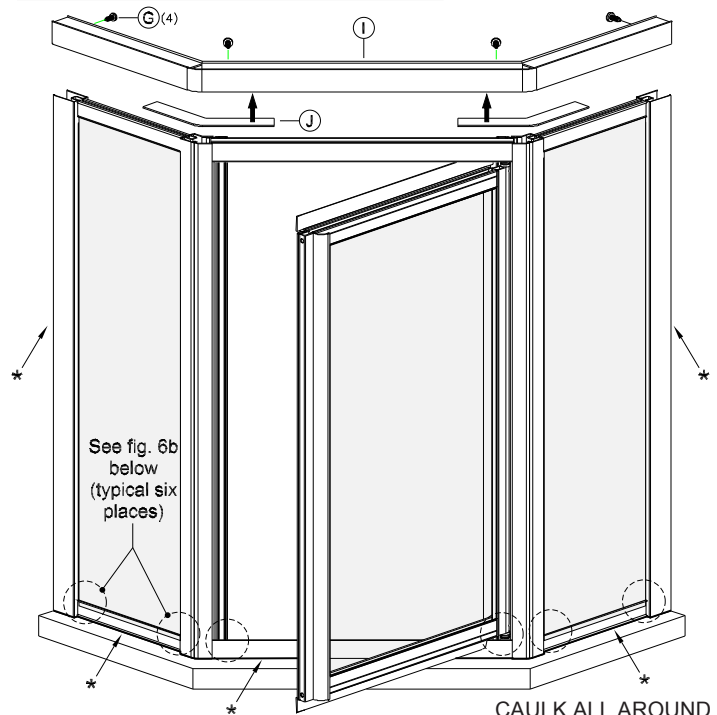
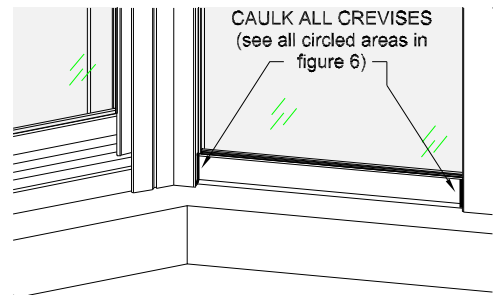

Fig. 6
Fig. 6b
* **Second:** from inside the shower unit, caulk the six (6) circled areas indicated in figure 6 above (caulk the crevise where the horizontal member meets the vertical member as shown in figure 6b).